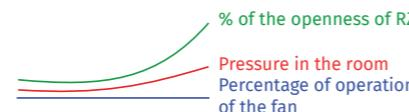

Figure 6. Trend display on the BMS system in case of failure on the exhaust part of the system
c) failure of the exhaust part of the system (see Figure 6):